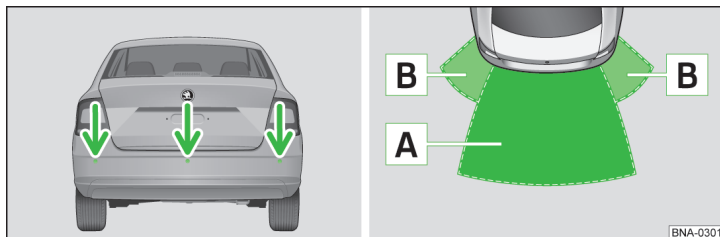

Fig. 69 Fitting the sensors / Range of the sensors
- Keep the system sensors » fig. 69 on page 63 clean, snow- and ice-free and do not cover with any objects of any kind, otherwise the system functioning may be impaired.
The system uses ultrasound waves to calculate the distance between the bumper and an obstacle. The ultrasonic sensors are integrated in the rear bumper » fig. 69.
Area » fig. 69	Range of sensors